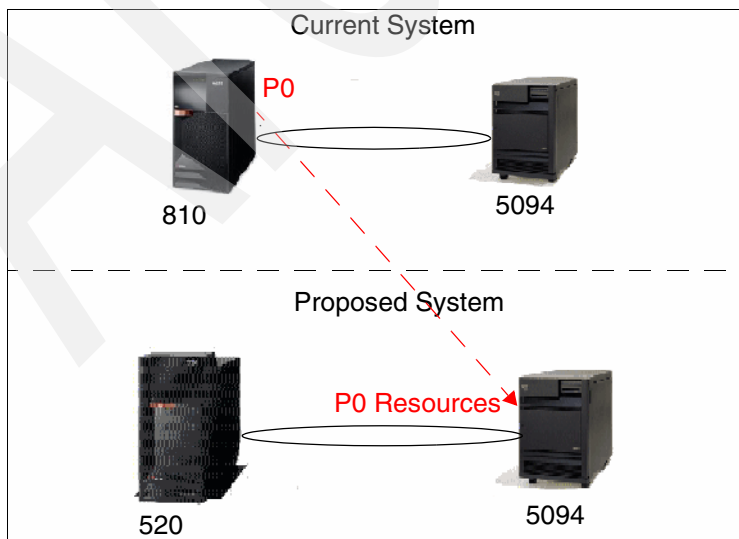

Figure 9-17 P0 migration first scenario
- In the first scenario, notice that there are currently (15) FC 4318 disks units in the 810 System Unit which belong to the Primary partition. The 520 System Unit can accommodate a maximum of 8 disk units (4 base and 4 optional). This means that there is no room to move over intact all of the Primary Partition disks. One option considers that there are enough PCI and Disks slots available in the 5094 to relocate all (15) disk units along with its disk and console IOAs from the System Unit to the 520 System i5 system during the migration. This option takes advantage of no longer requiring a Primary partition in System i5 systems System Unit, which allows all its resources to migrate intact (P0 will become P2 after the migration). Figure 9-17 illustrates this scenario.